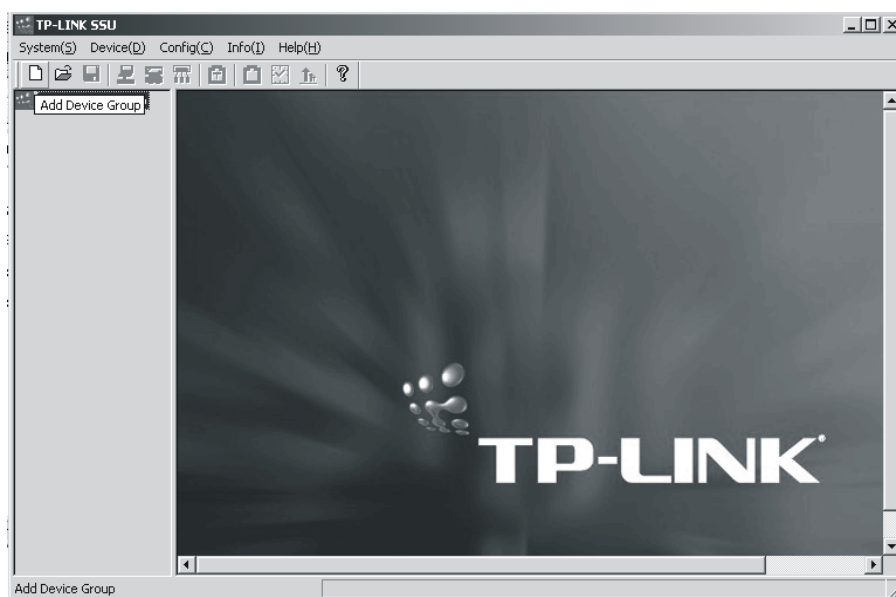

Figure 5-6
- c) Click the add group icon on the tool bar. As figure 5-6.